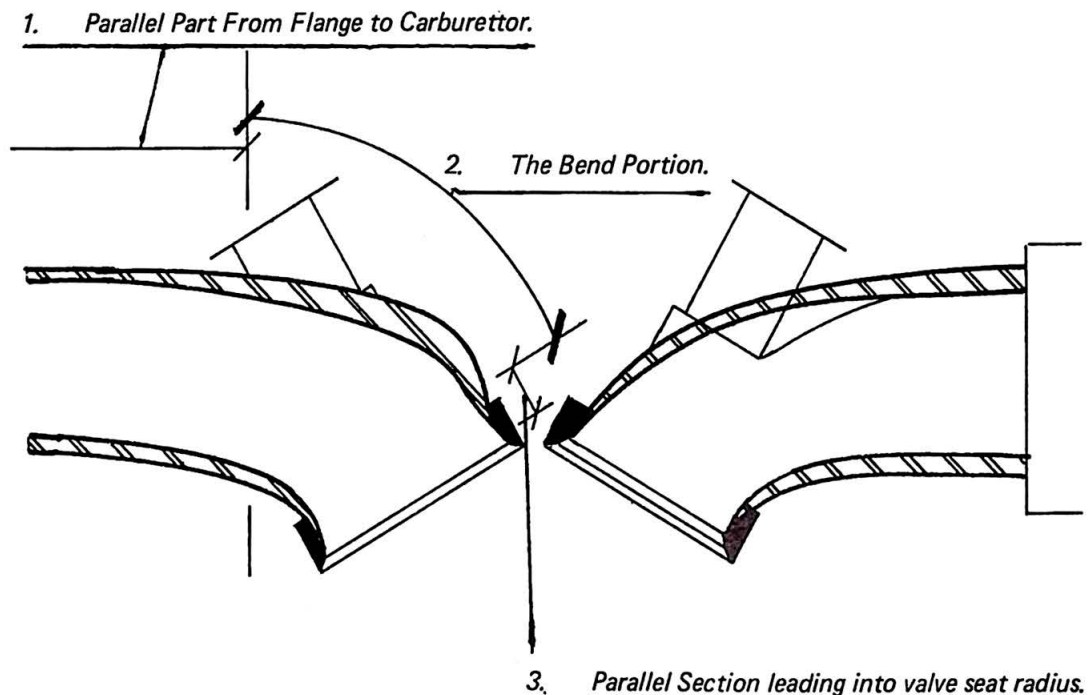

Fig. 1. The shaded areas illustrate where material should be removed
(1) Parallel part from the carburettor to the valve guide. This should be enlarged to match the carburettor size. Take great care when enlarging the port to match the 32mm carburettor not to break through the casting.
(2) The bend from the guide area down to the valve throat. As already mentioned, it is most advantageous to over emphasise the downward path of the gases by exaggerating their change of direction by removing material until a pocket is formed (see Fig. 1) behind the guide. This gives an exaggerated curve to the port and will promote the extra downward flow required.
(3) After the bend there should be a short parallel section — 3/16 inch long running into a radiused valve seat.
The radiused area of the valve seat is essential to allow the incoming gases to flow efficiently at small valve openings. Improving gas flow at small valve openings is very important and the radius, as shown in Fig. 1. provides a better path for gases under these circumstances.